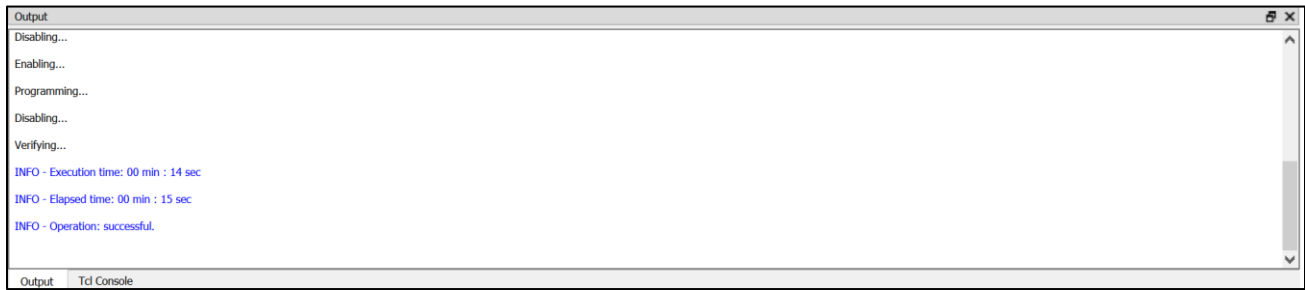

**Figure 4.8. Radiant Programmer – Selecting Device Properties Options for CrossLink-NX Flashing**
3. In the Device Properties dialog box, apply the settings as shown in Figure 4.8.